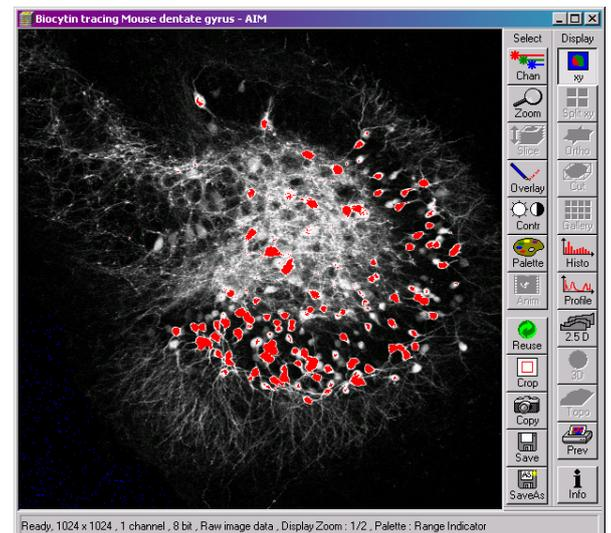

Fig. 22 Image window
- Select **Palette** in the **Image** window of the scanned image (Fig. 22).
The scanned image appears in a false-color presentation (Fig. 22).